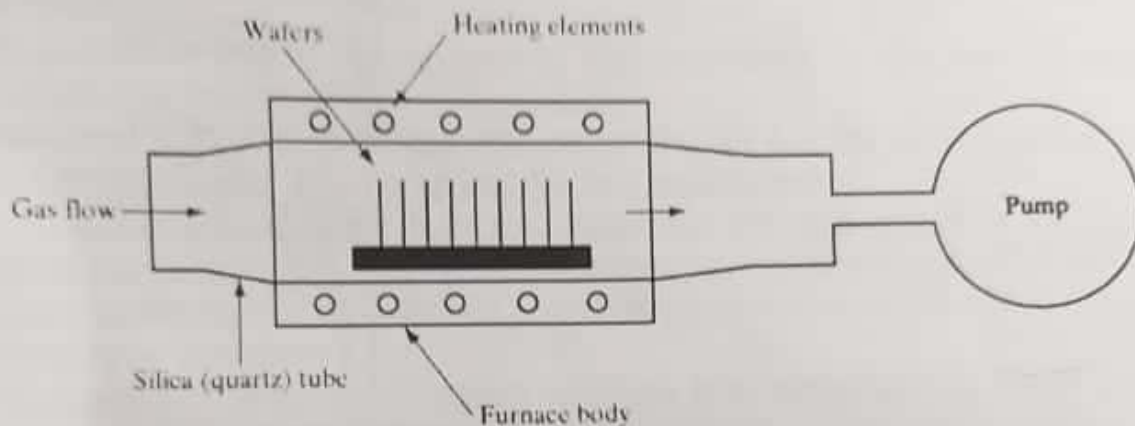

Figure 5-6
- SiO₂ films can also be formed by **low pressure chemical vapor deposition** (LPCVD) (Fig. 5-6) or **plasma enhanced CVD** (PECVD). The key differences are that thermal oxidation,